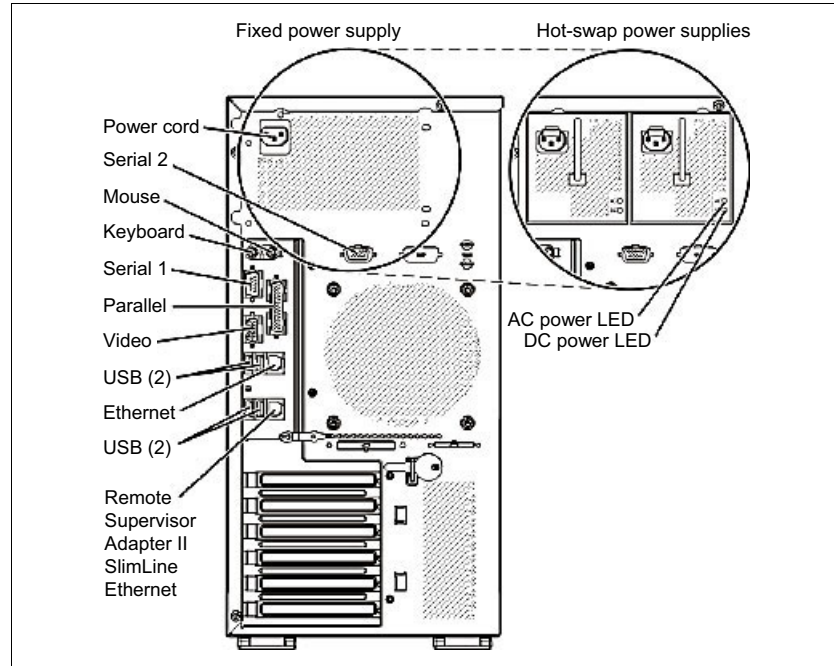

Figure 3-3 Rear view of a stand-alone HMC 7042-C06 and 7042-C07
- A stand-alone HMC 7042-C06 and 7042-C07 (Figure 3-3)